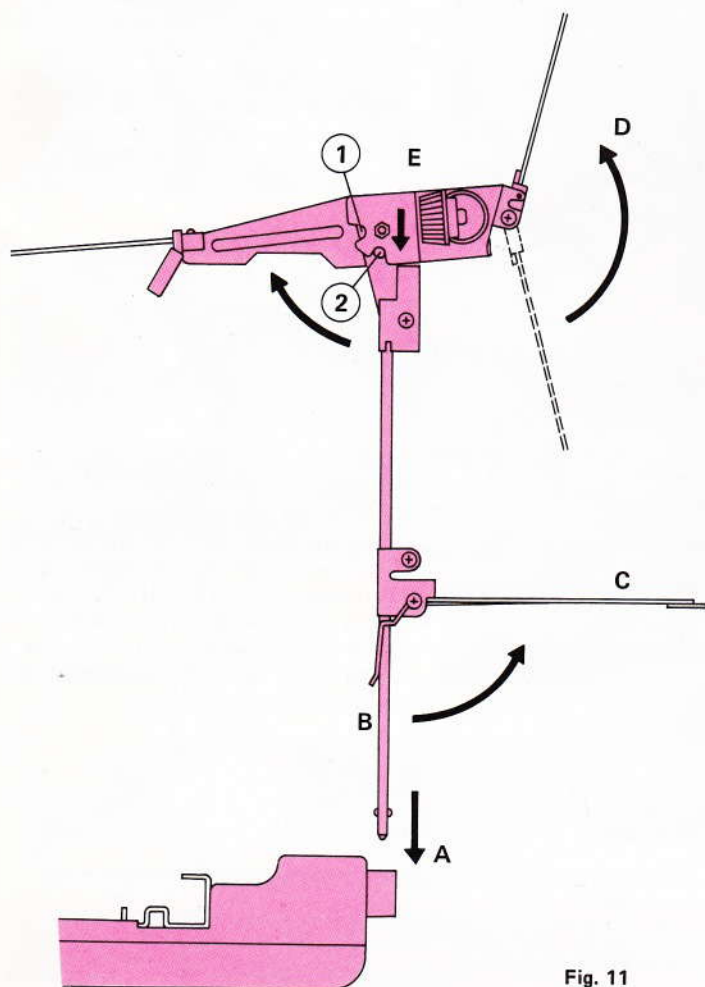

Fig. 11
Slightly lift up the head E of the tension assembly to take it out of the groove ①. Turn it horizontally and engage it in groove ②. Place the 2 tension springs D vertically (fig. 11).